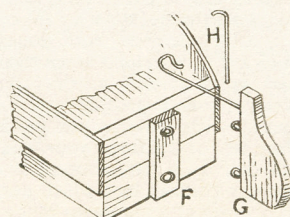

Fig. 4—Stern and rudder
There is a stern post next to be fixed, as (F) in Fig. 4. It should be 1½ins. long, ½in. wide and ½in. thick, glued and pinned firmly in place.